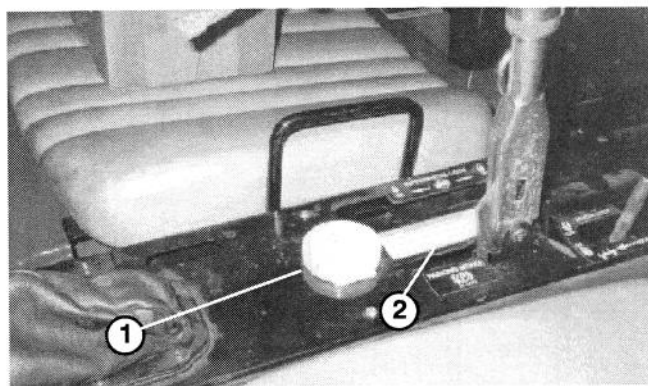

Figure 14
53. Affix circular level to top of console cover positioning as shown in figure 14.
54. Affix operation decal to top of console cover positioning as shown in figure 14.